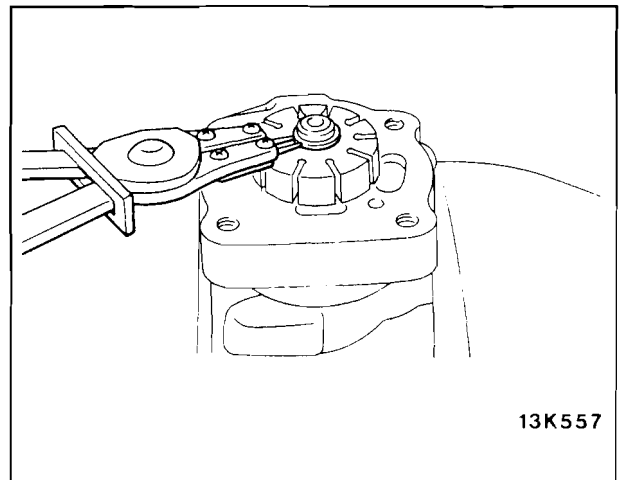

Fig. 8—Snap ring removal
- (4) Carefully remove the vanes from the rotor.
(5) Remove the snap ring from the shaft and remove the rotor assembly, refer Fig. 8.